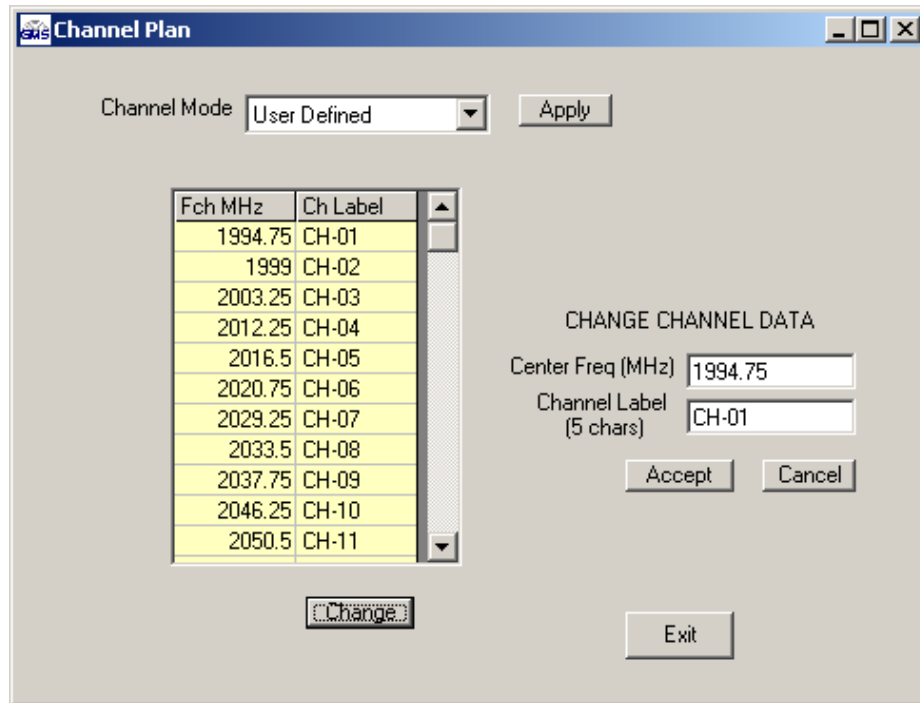

Figure 8 – User Defined Channel Mode Screen
- User Defined (reference Figure 8) – this channel plan is defaulted with 30 pre-defined channels initially but any channel and channel label can be modified. Select the 'User Defined' channel mode using the pull down box and then click on the 'Apply' button. Then click on the 'Change' button. Enter the frequency in the "Center Freq (MHz)" text box and the label in the "Channel Label" text box as shown. Then click on the 'Accept' button to save or 'Cancel' to cancel the operation.